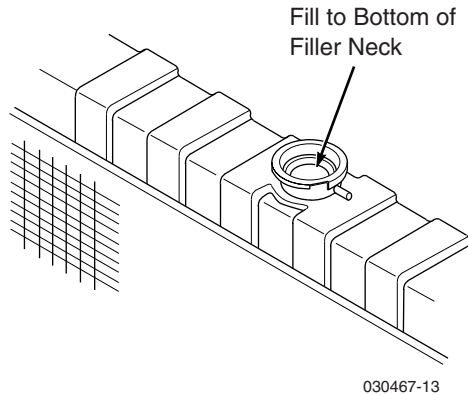

Figure 7-11. Coolant Level
2. Visually check the coolant level. The coolant level should be up to the bottom of the filler neck as shown in Figure 7-11. Add a mixture of coolant and soft water as needed.